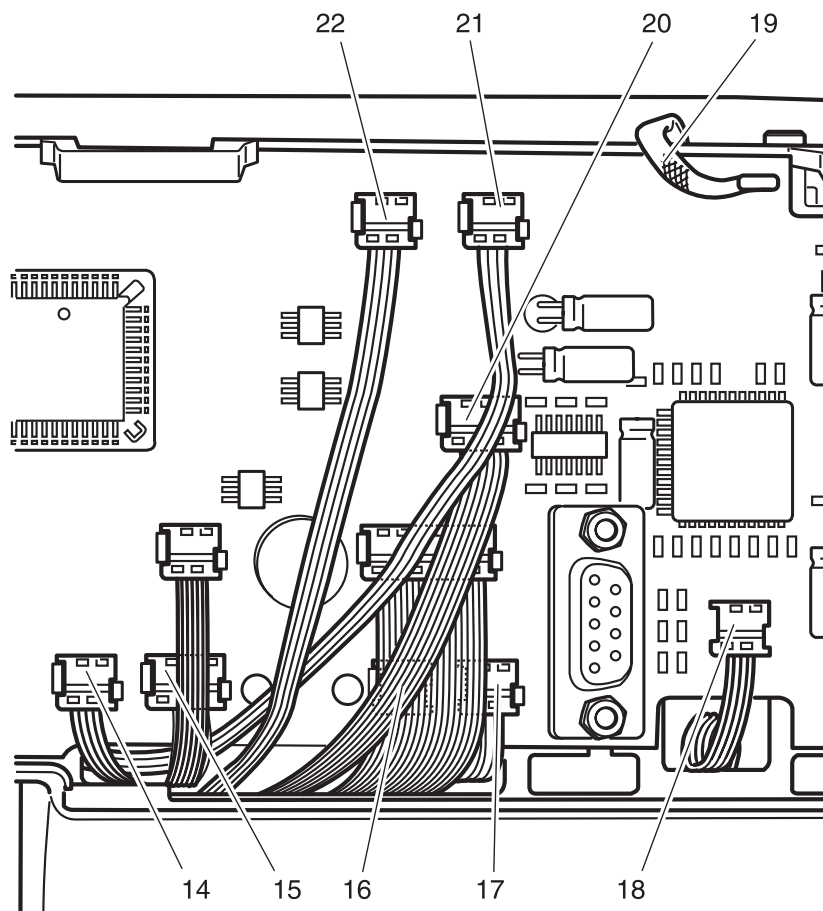

Fig. 12
- Remove the connecting plug 14 from presser bar lifter sensor (fig. 12).